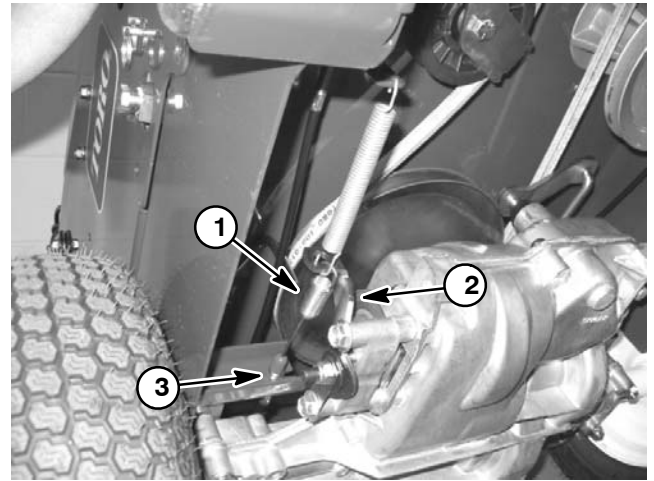

Figure 7
3. Disconnect brake cable from brake lever on trans-axle (Fig. 7):
3. Connect brake cable to brake lever on transaxle (Fig. 7):